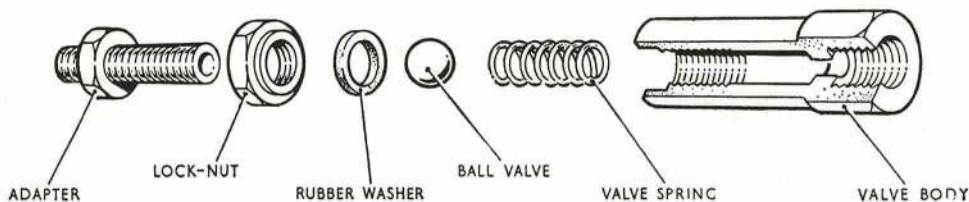

Fig. 6. AUTOMATIC METERING VALVE
24. Automatic Metering Valve. The valve (Fig. 6) is a simple spring-loaded ball valve, seating on one end of an adapter screwed into the valve housing. The other end of